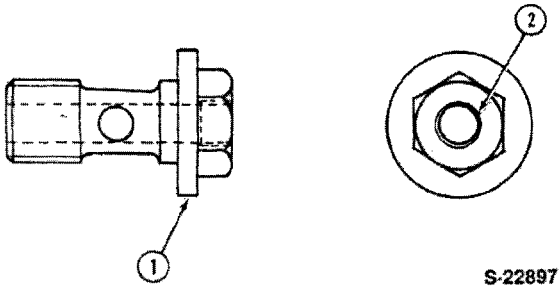

Figure 80
2. Drill and tap a banjo bolt for pressure testing as shown, Figure 80.